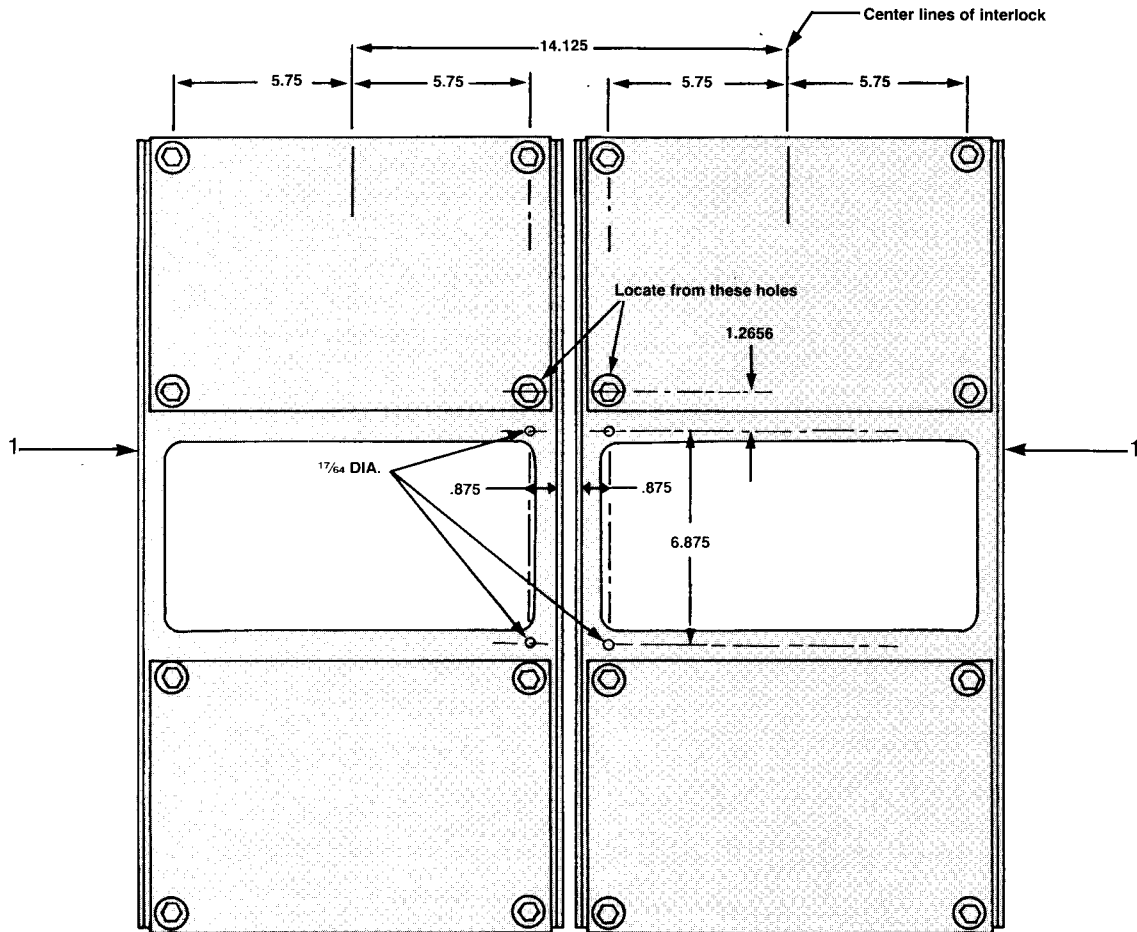

Fig. 1
1. Drill mounting block assemblies (1), as shown in Fig. 1.